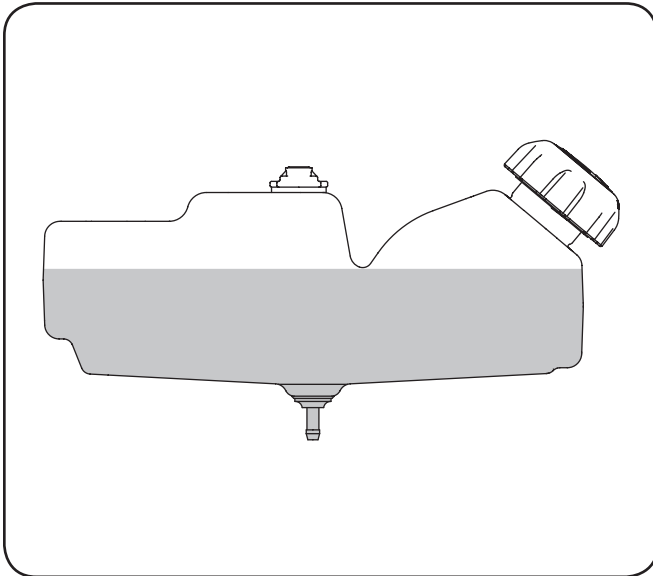

Figure 3-13
**IMPORTANT:** It is important to NOT top off your fuel tank when filling with fuel. Leave an expansion area available inside the fuel tank to allow for the fuel to expand and for proper ventilation. Otherwise the unit may not run properly. Fill the tank in accordance with Figure 3-13.